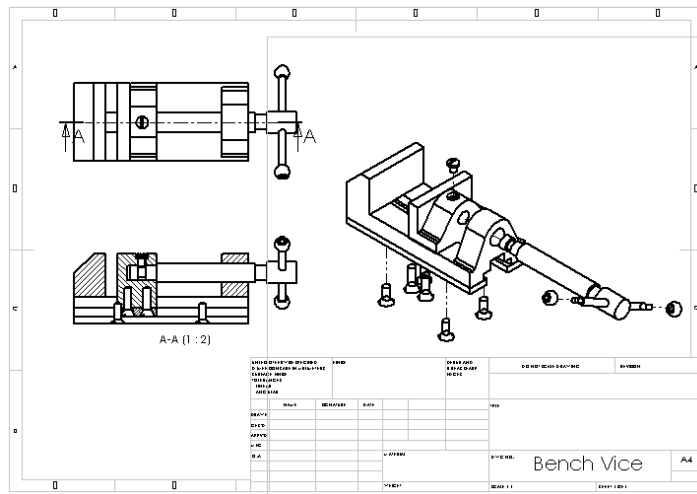

Figure 13-40 Drawing sheet after moving the drawing view
- Delete the views that are not required in the drawing sheet, refer to Figure 13-40.
- Move to arrange the views in the drawing sheet, refer to Figure 13-40.
3. Drag the cursor to move the drawing view and place the view at the desired location, refer to Figure 13-40.